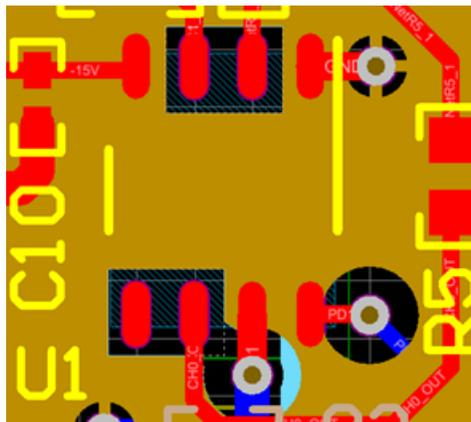

Figure 23. Op Amp Inputs and Outputs Test
- Remove polygon fills under the inputs and outputs on all op amps (Figure 23)